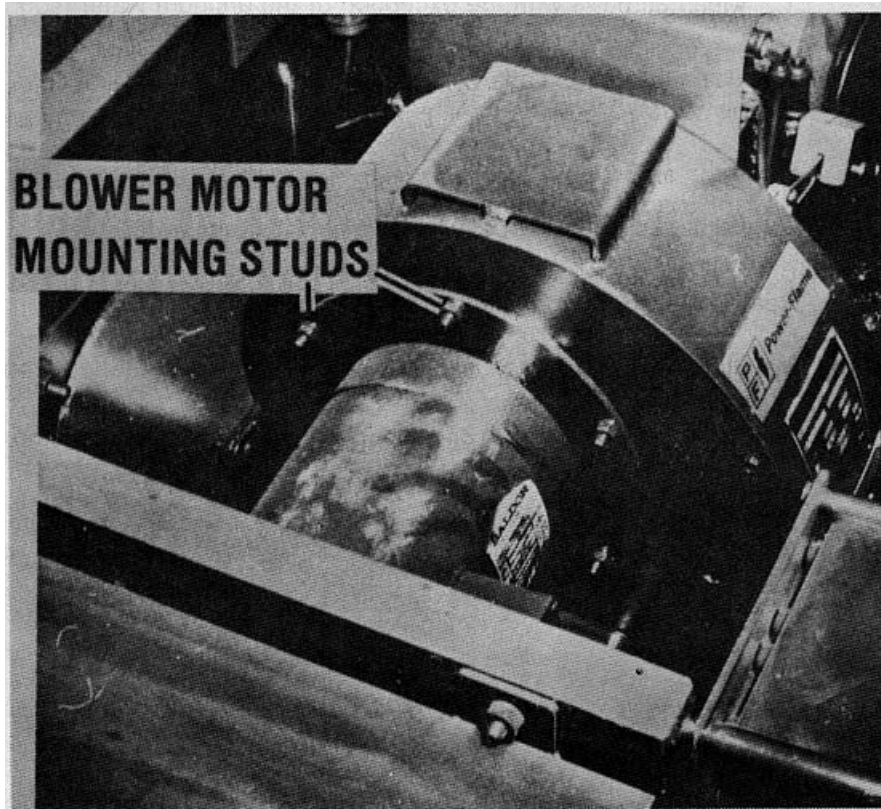

Figure 47. BLOWER MOUNTING
- 2 Remove six nuts from studs in blower housing (Ref Fig 47)
- f. Installation. Refer to Fig. 47 and install the blower motor and blower wheel to the blower housing.